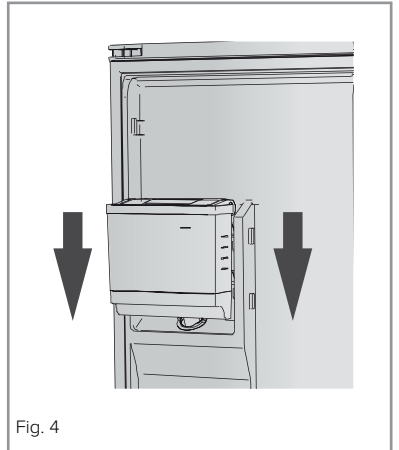

Fig. 4
- Slide the chilled water dispenser downwards to lock it into position (Fig. 4).